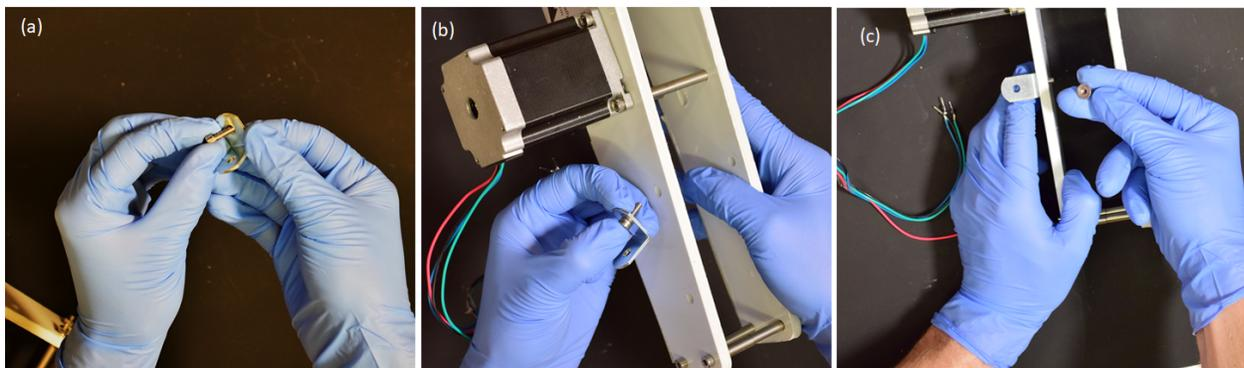

Figure 16
Step 30: Refer to Figure 16 and repeat steps 27-29 for each of the four mounting holes.